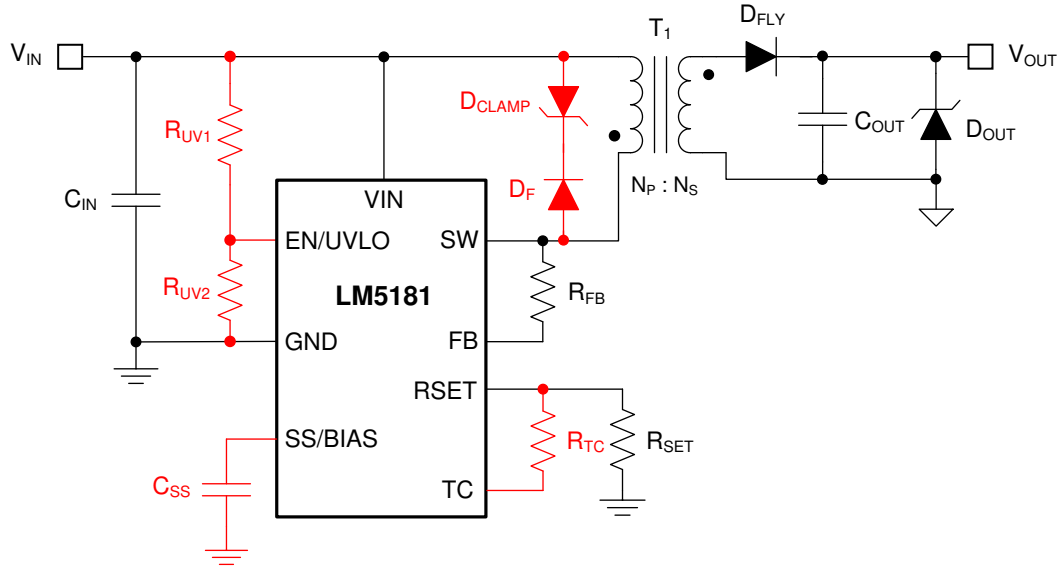

Figure 8-1. LM5181 Flyback Converter Schematic (Optional Components in Red)
Figure 8-1 shows a typical schematic of the LM5181 PSR flyback circuit. Components denoted in red are optional depending on the application requirements.
To minimize output voltage regulation error, the LM5181 senses the reflected secondary voltage when the secondary current reaches zero. The feedback (FB) resistor, which is connected between SW and FB as shown in Figure 8-1, is determined using Equation 8.